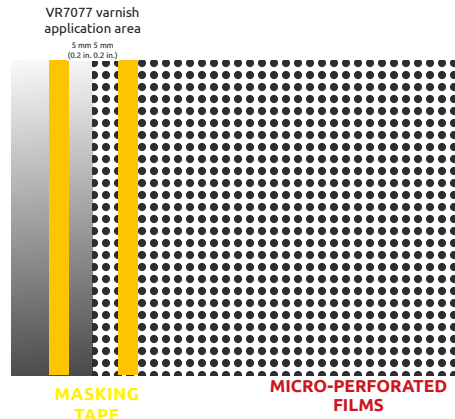

Figure 33
- › Apply 2 strips of masking tape: (FIG. 33)